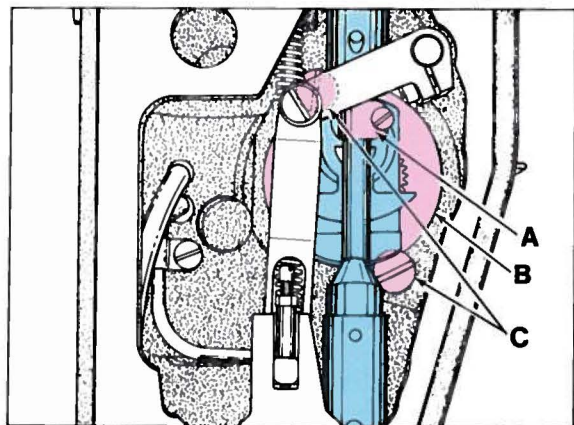
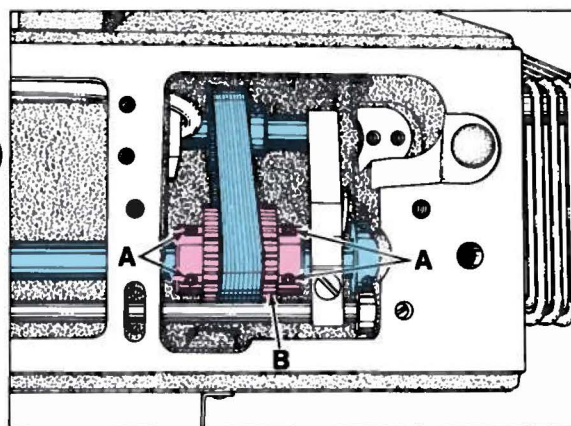
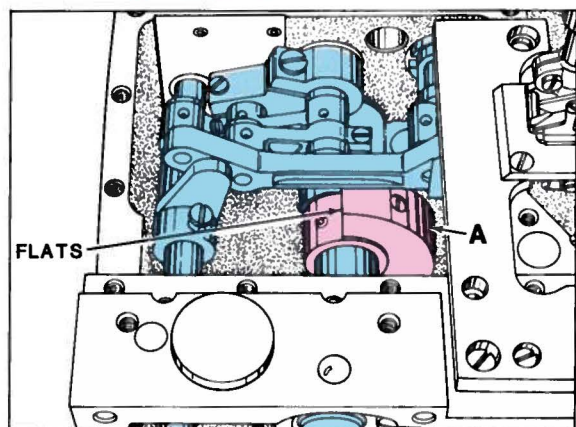

Fig. 3
Fig. 4
Fig. 5
Turn handwheel in operating direction to position needle bar clamp (A, Fig. 3) at TOP of stroke. Loosen four screws (A, Fig. 4) in upper mainshaft sprocket (B) and hold handwheel so upper mainshaft and needle bar cannot move.
While holding handwheel, turn lower mainshaft to position feed crank counterweight (A, Fig. 5) with its FLATS perpendicular to the bottom of machine and facing away from the operator as shown in Fig. 5. Tighten screws (A, Fig. 4) in upper mainshaft sprocket (B).
NOTE: Cardan drive internal tooth ring gear (B, Fig. 3) has been set at the factory and secured with screws (C). DO NOT attempt to remove this gear. Without proper adjustments, damage to needle bar may result.